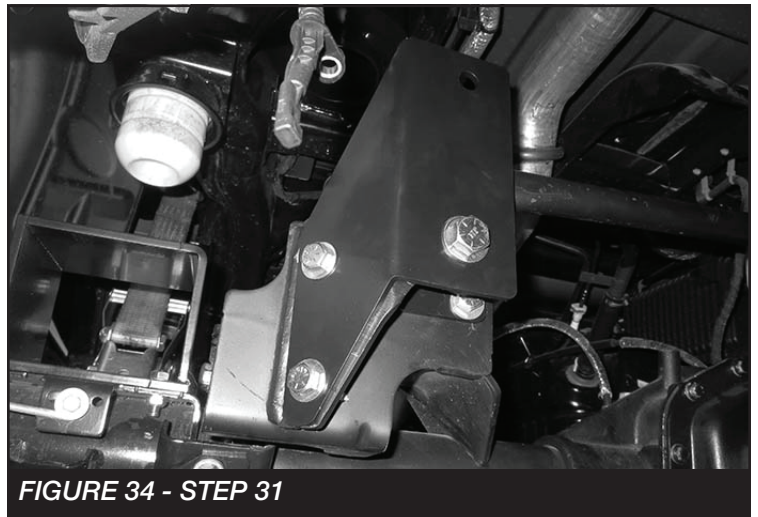

FIGURE 34 - STEP 31
31. Reinstall the FT50778 (Track bar bracket) using the supplied 7/16" x 1" hardware. **DO NOT TIGHTEN.** Install FT50592 (Rear track bar sleeve) using the supplied 9/16" x 3" bolt and hardware. **SEE FIGURES 34** Torque 7/16" hardware to 83 ft-lbs and 9/16" to 148 ft-lbs.